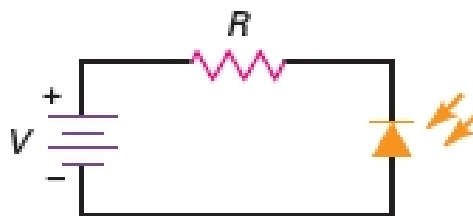

Figure-13 Incoming light increases reverse current in photodiode
- Figure-13 shows the schematic symbol of a photodiode. The arrows represent the incoming light. Especially important, the source and the series resistor reverse-bias the photodiode. As the light becomes brighter, the reverse current increases. With typical photodiodes, the reverse current is in the tens of microamperes.